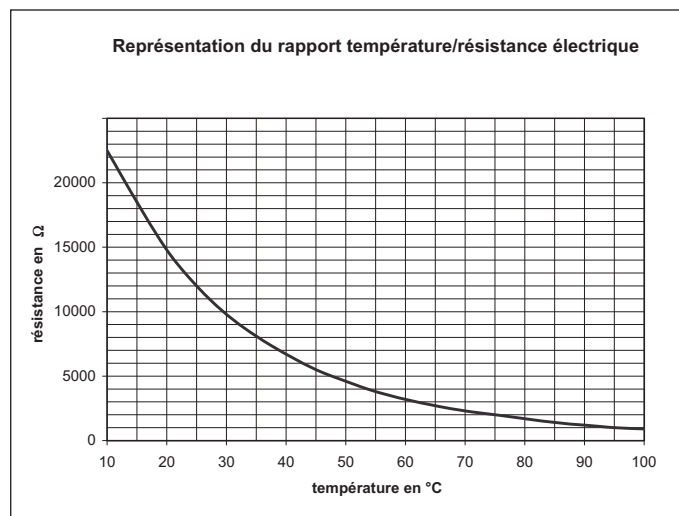

fig. 28 Sensor resistance graph
- Check temperature sensors for resistance values against fig. 28 (humidity on sensors).